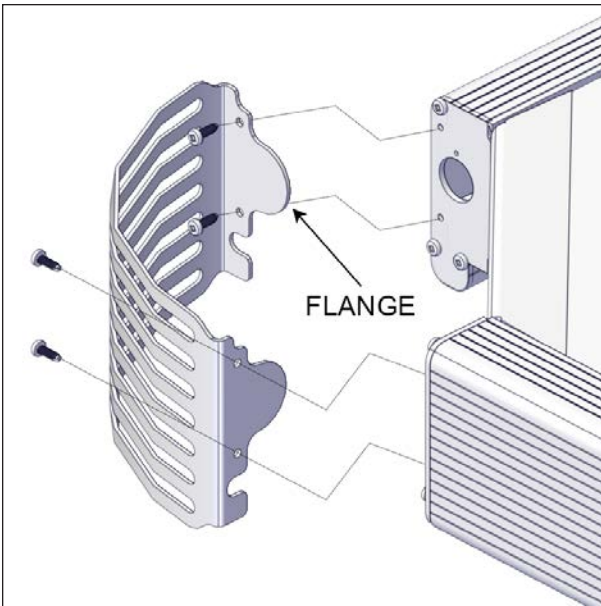

FIGURE 60: OUTSIDE CORNER INSTALLATION
4. Use a #2 6" long Robertson screwdriver to attach the outside corner (left and right) on the corner bracket support by using the #8 x 1/2" screws, see Figure 60.